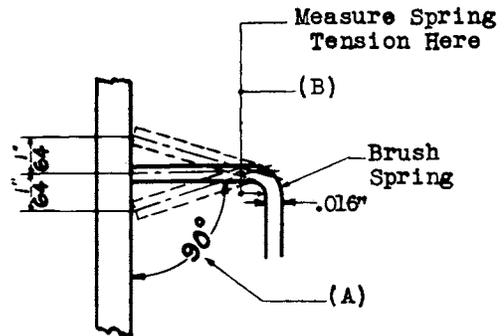

Fig. 6
Fig. 6 (A) - The contact portion of the lip of the commutator brush spring shall meet the face of the commutator strip within 1/64" of the point at which the horizontal portion or lip of the brush spring would be perpendicular to the face of the commutator strip. Gauge by eye.
2.10 Contact Pressure - Fig. 6 (B) - The contact pressure of each individual brush spring measured just below the horizontal portion or lip with the brush rod in the position corresponding to the reference terminal of the bank shall be: